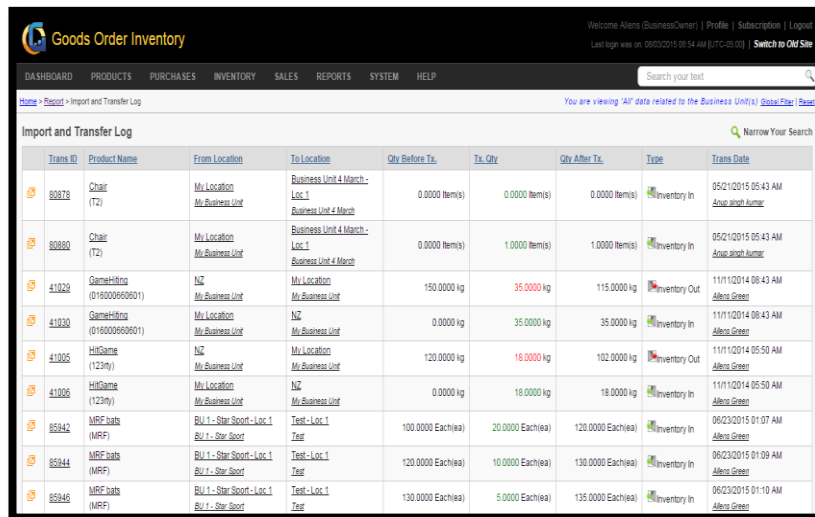

FIGURE 4.10.1
3. You will be redirected to another window, Snapshot of the window is shown in figure: 4.10.1